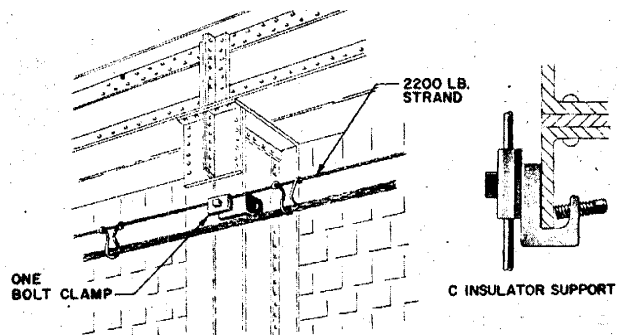

Fig. 10 — C Insulator Support and One Bolt Clamp
- C insulator support (Fig. 10) will accommodate T knobs, one bolt clamps, and B or M bridle rings. It can be attached to steel structures up to 1 inch in thickness.